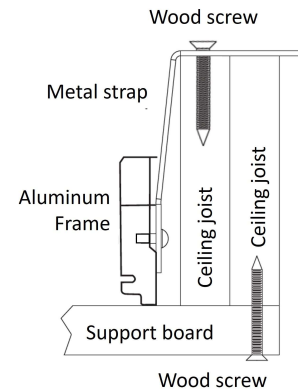

FIGURE 16
L. Installer #2: Unfold the 14" metal straps and bend them over the adjoining ceiling joists. Screw them in place with the wood screws (1/4" x 1-1/2") passing through the 1/4" diameter hole in the metal strap and into the wood joists. See **Figure 15** and **Figure 16**. Be sure the straps are taught to support the weight of the attic ladder.